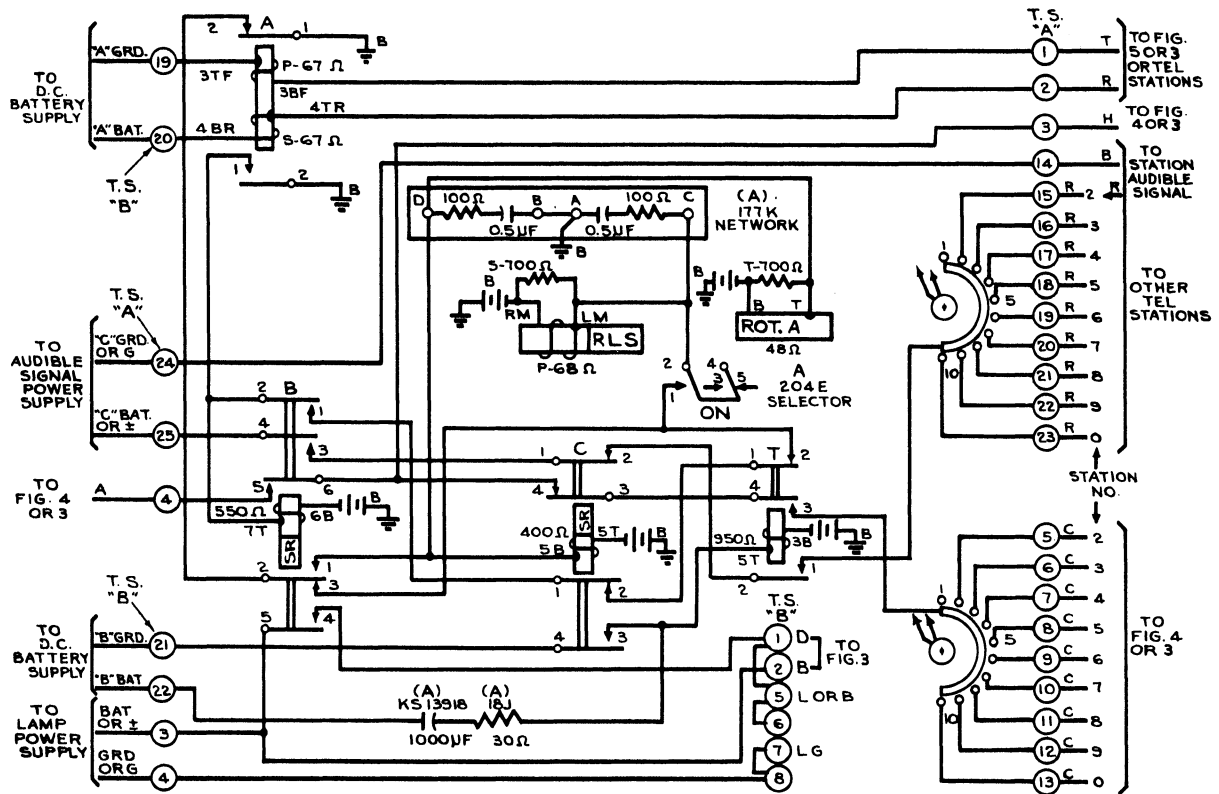
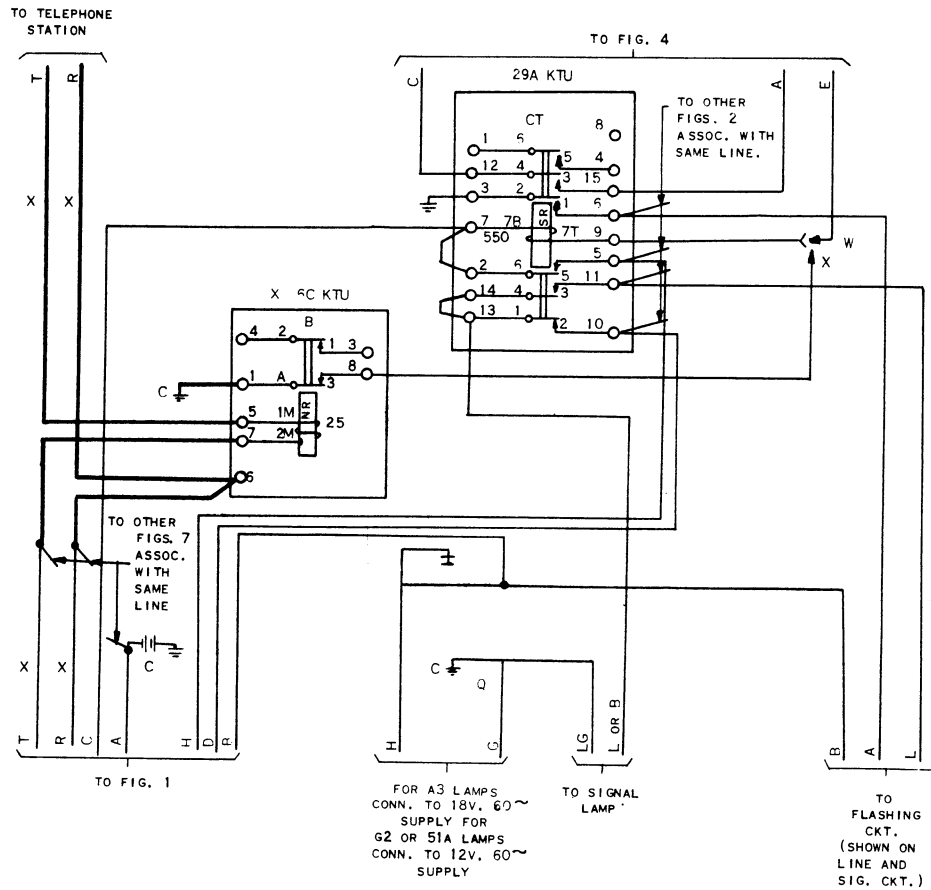

Fig. 1
Fig. 2
- 576.3-a When flashing lamps are not required, only the 57A KTU is used. See FIG. 1.
- 576.3-b When flashing lamps are required, one 6C KTU and one 29A KTU are required per station. See FIG. 2.
- 576.3-e Cabling, wiring and strapping of the units are covered in FIGS. 1 to 6.
Disconnect the normal lamp lead from T. S. B punching #1. Line lamp current is now supplied from T. S. B punching #1 lead D (FIG. 1) to the 29A KTU punching #10 (FIG. 2) through the normally made contacts to punching #13 to the line lamp on lead L or B. In this type of installation, the lamp power shall be D. C. applied to T. S. B punchings #3 and #4 (FIG. 1). Busy lamp leads are not supplied from the 57A KTU since this is a function of the #100 multi-line system.
One circuit, as shown in FIG. 2, shall be used per station to control the line lamp circuit. The leads B - A - L (right hand side of FIG. 2) are not used. The leads T-R shall be connected to the T. R. of the line unit.
- (1) Remove lead A from key box and tape end.
- (2) Remove the T-R leads to key box and splice to the T-R leads of this equipment.
- (3) Remove the L lead to the key box and splice to the L or B lead at this equipment.
- (4) Connect the A lead from FIG. 2 of this equipment to the ST punching on the signal circuit connecting block of the 101A-B key equipment.
- (5) Connect the B lead of this equipment to the B and FL punchings on the signal circuit connecting block of the 101A-B key equipment.
- (6) Connect the L lead from FIG. 2 of this equipment to the L punching on the signal circuit connecting block of the 101A-B key equipment.
- (7) The R relay of this unit shall be blocked in the nonoperated position to prevent accidental operation due to mechanical shock.
When flashing lamps are not required, FIG. 1 only is used and modifications 1, 2, 3 and 7 in the preceding paragraph shall be performed. When automatic cut-off is required, see paragraph 576.3-c of this practice. For audible signals, see Item 576.4 of this practice.
576.5-a The operating sequence of the 57A KTU is as follows (see FIG. 1):
1A KEY TELEPHONE SYSTEM 57A KEY TELEPHONE UNIT (FOR FIG. 1)